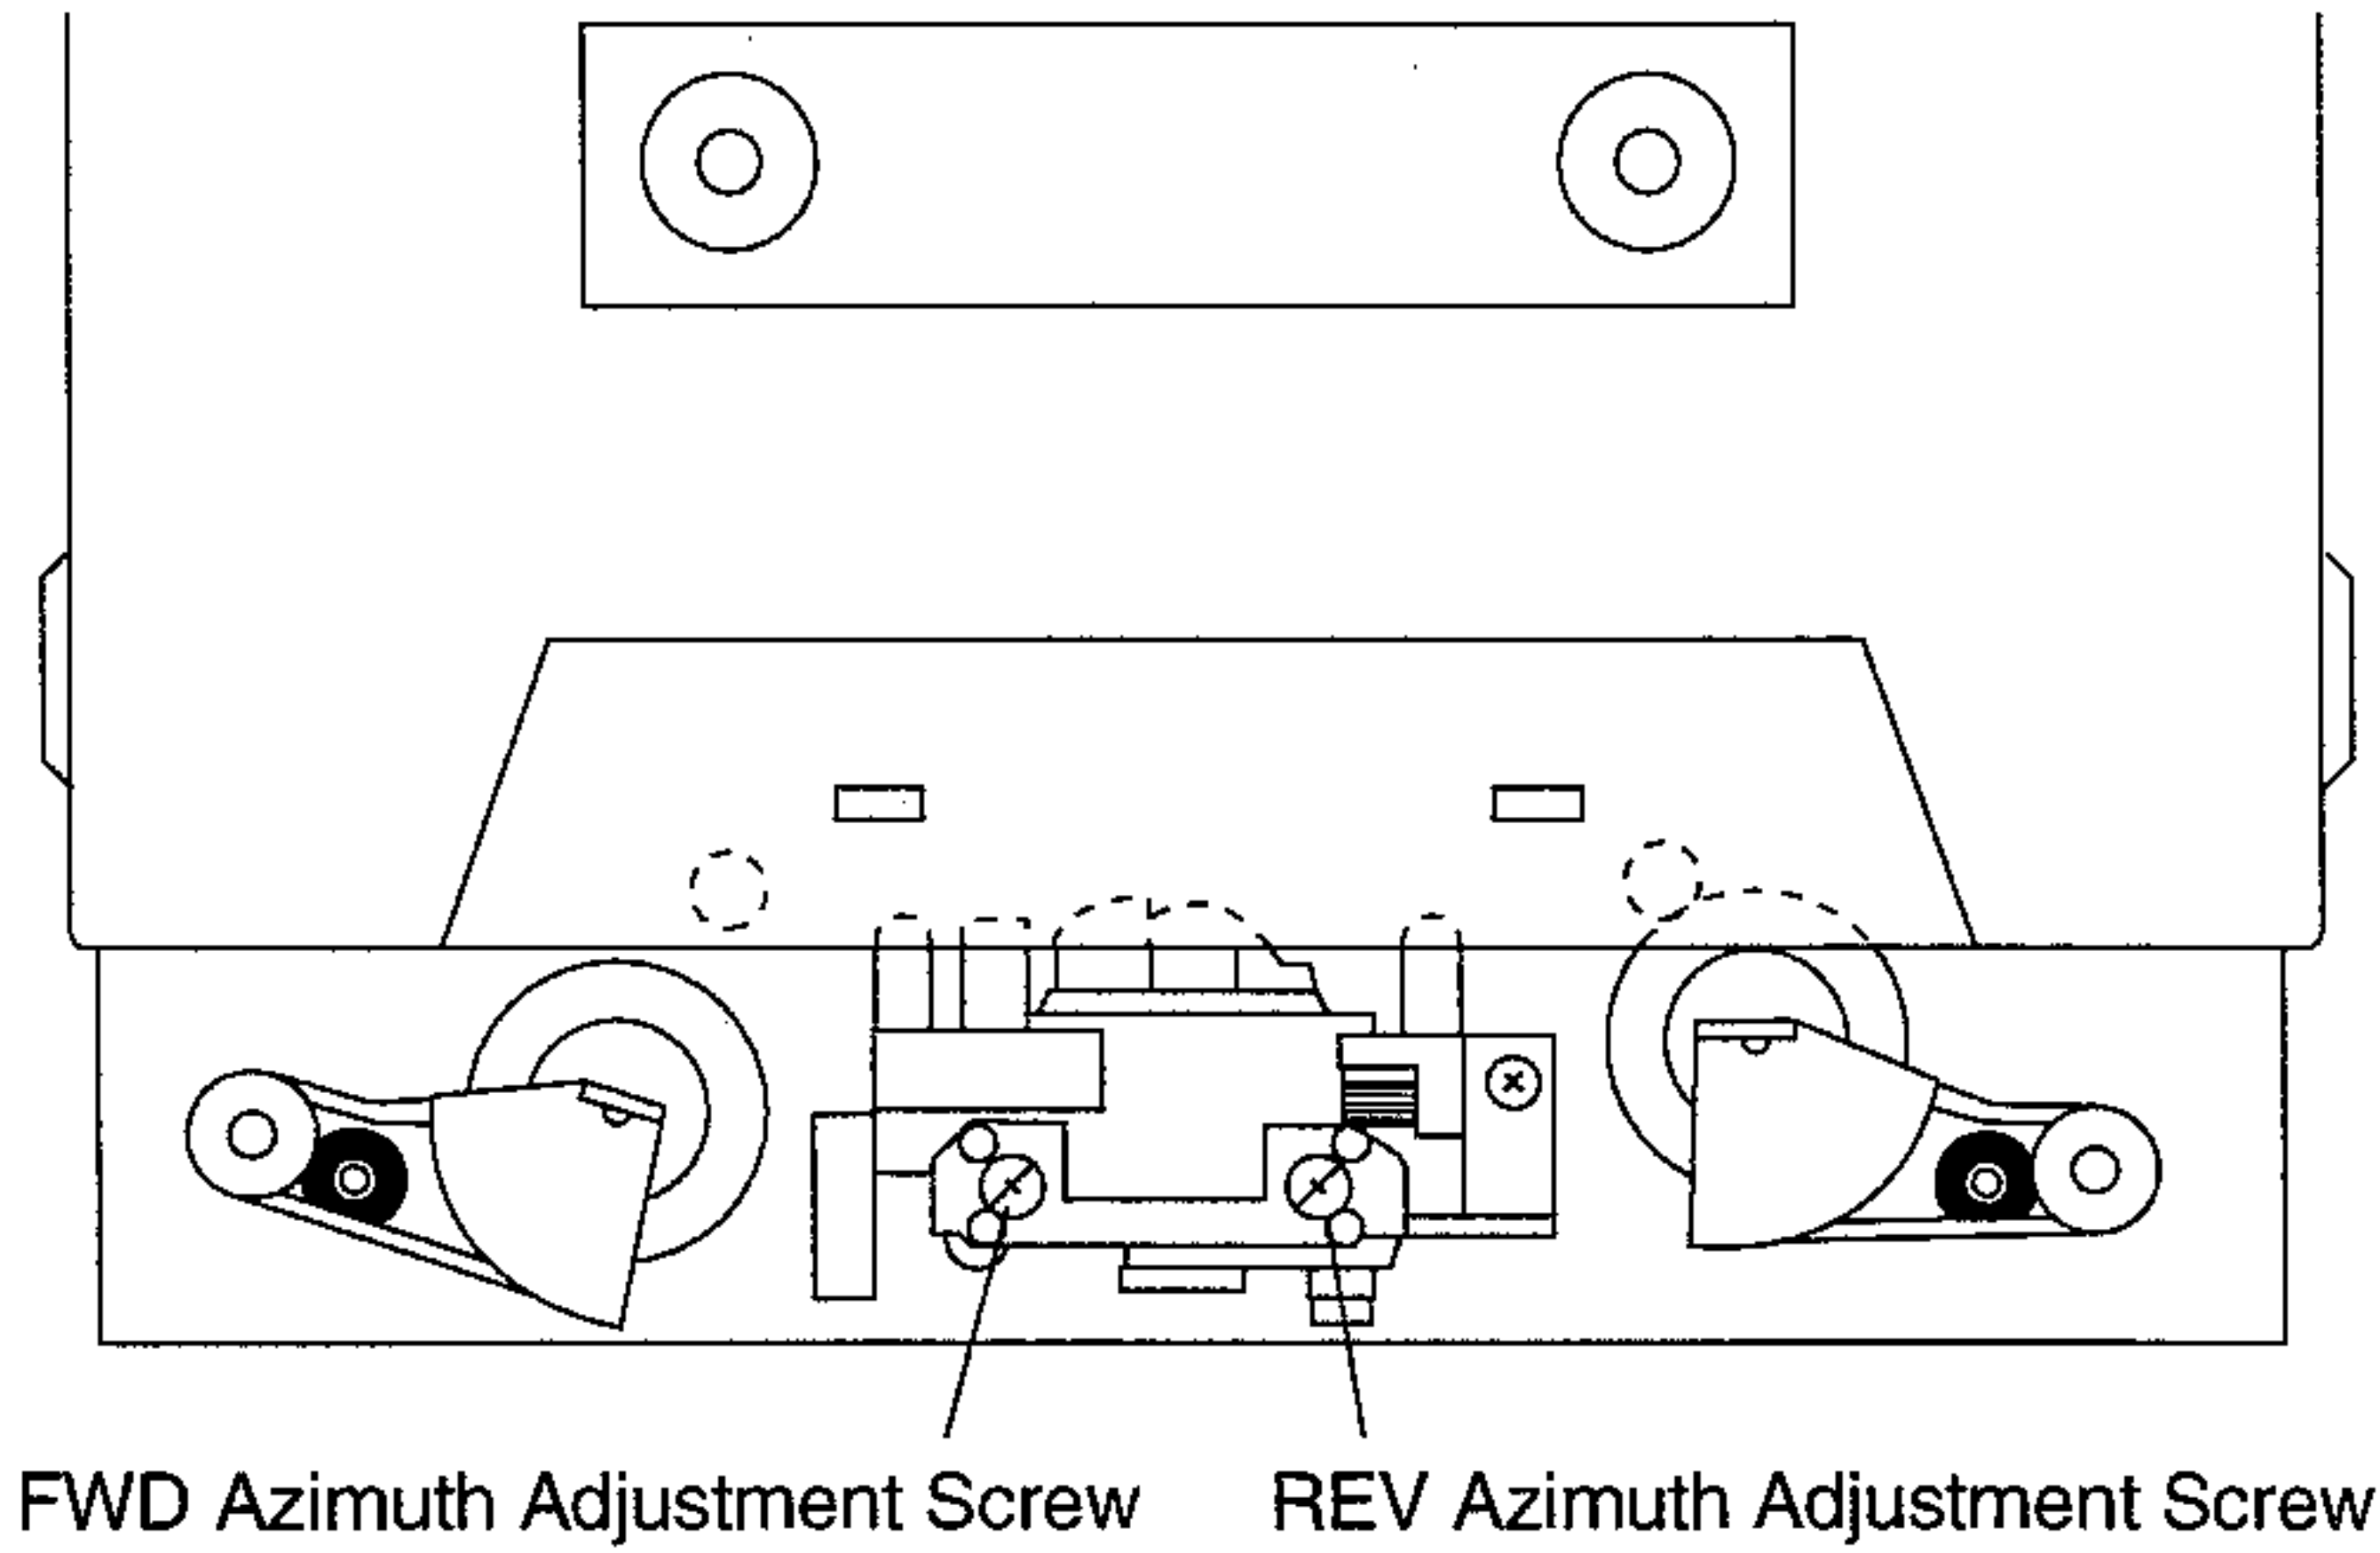

Fig. 2-2 Head Azimuth Adjustment
- Adjustment points and test points are shown in Fig. 2-2 and Fig. 2-4.
(1) Tape Speed Adjustment